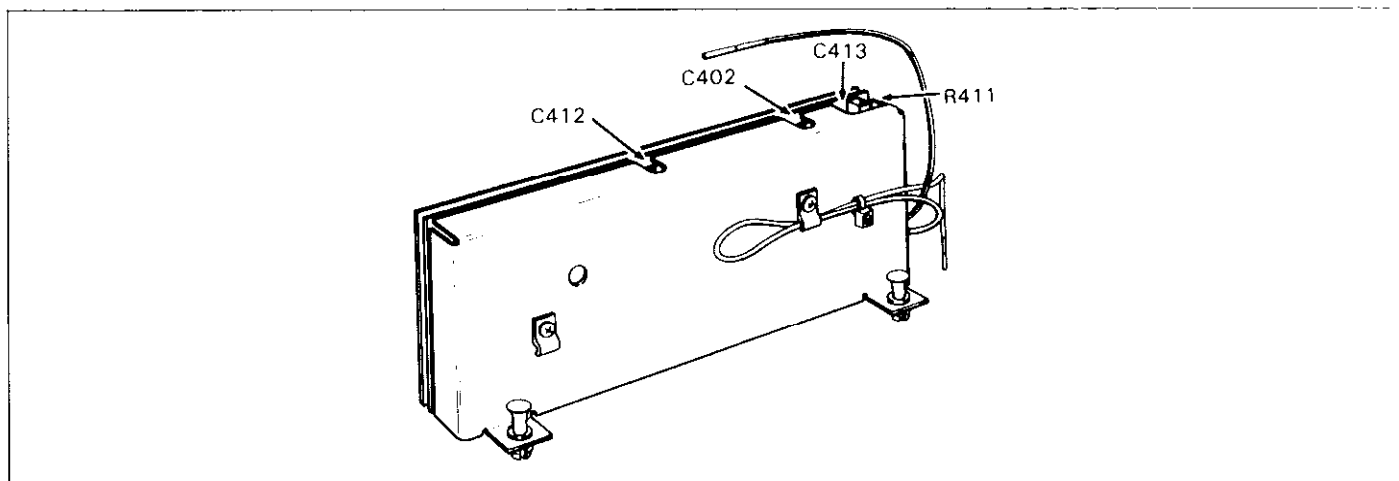

Figure 6-7. TRMS AC Volts Calibration Adjustments
- D. After allowing sufficient time for the measurement to settle, use an insulated alignment tool to adjust C413 (see Figure 6-7) for a display reading of 100.000V \pm 250 counts.